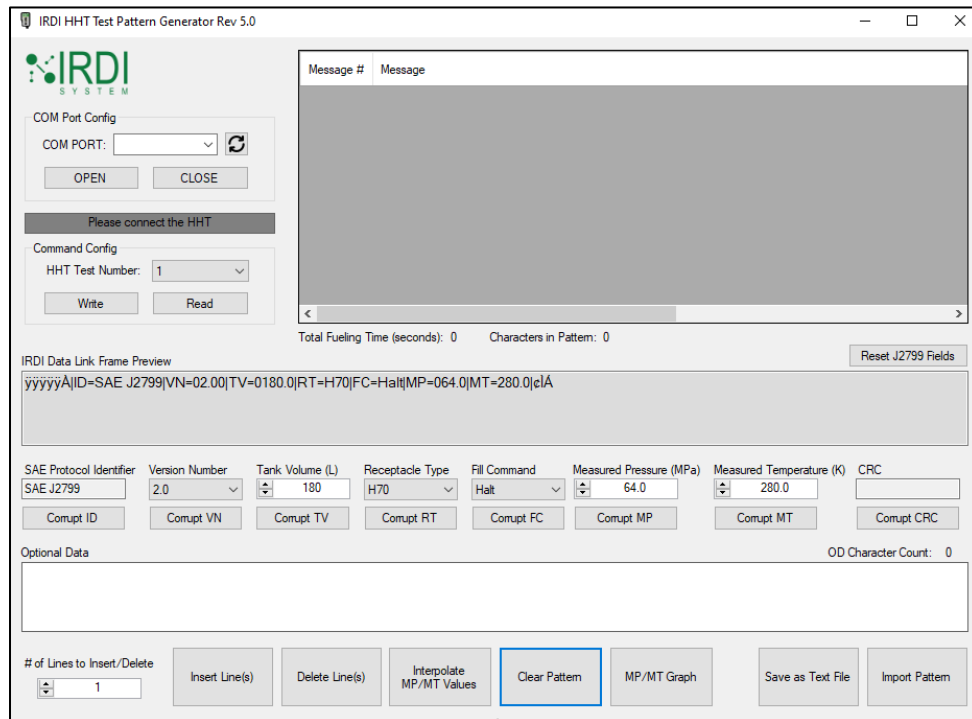

FIGURE 6-1 HHT TEST PATTERN GENERATOR SOFTWARE, MAIN SCREEN
STEP 3	From the Start menu, locate and start the program. The program's main screen appears as shown in Figure 6-1.